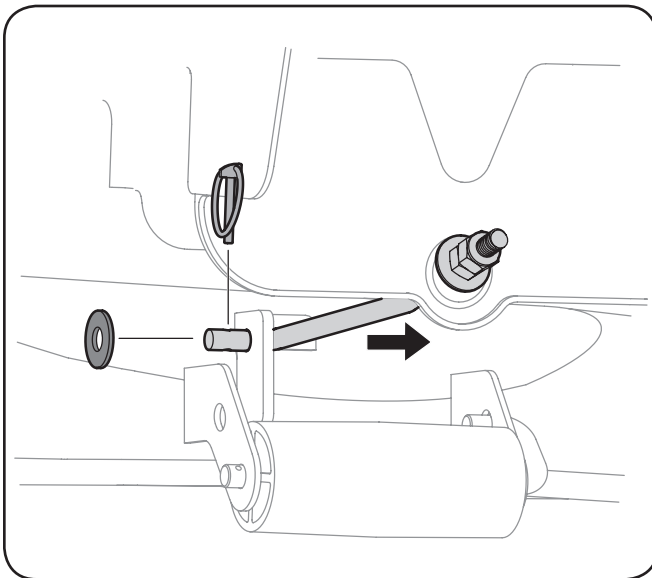

Figure 7-4
9. Gently slide the cutting deck toward the front of the tractor, carefully guiding the hooks on the deck off of the deck stabilizer rod. See Fig. 7-4.